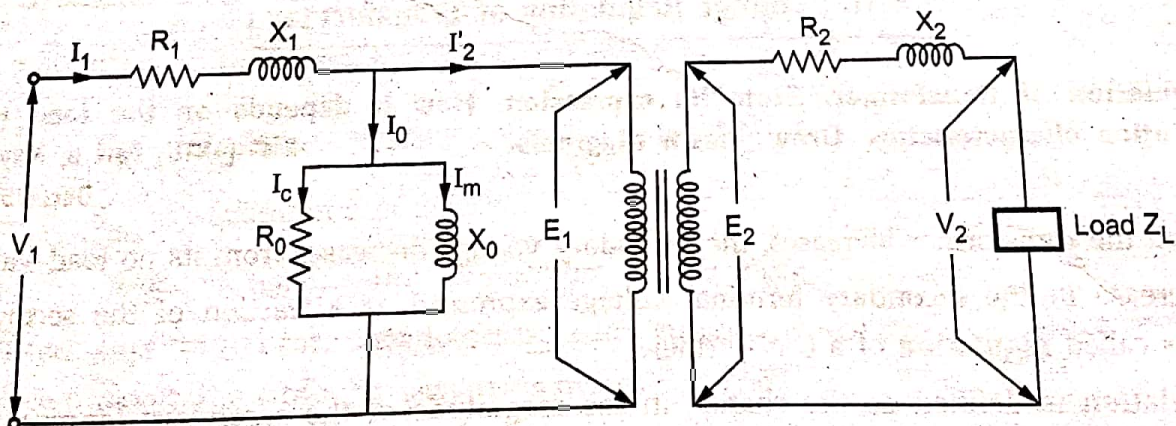

Fig. Q.16.1
- Hence the equivalent circuit can be shown as in the Fig. Q.16.1.